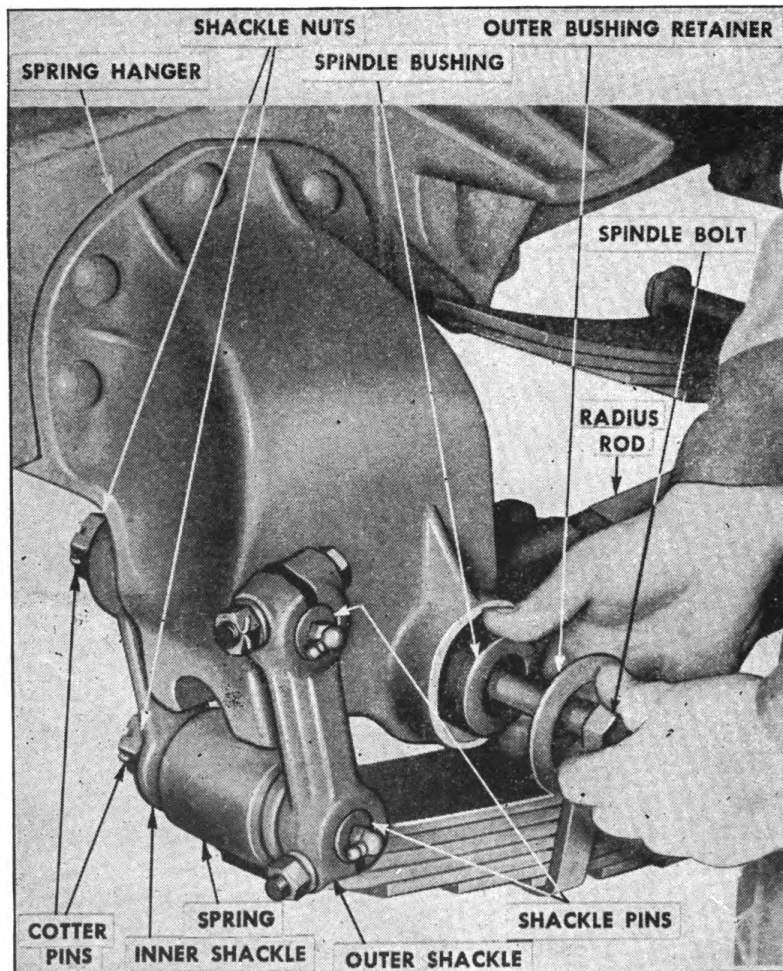

FIGURE 60. HANGER—SEMI-TRAILER
7. SPRING HANGERS—SEMI-TRAILER (Fig. 60).—*a.* NOTE: When replacing spring hangers or auxiliary spring brackets it is not necessary to disconnect dolly from semi-trailer.
c. Removal, front hanger (Fig. 60).—(1) Remove outer and inner wheels on both sides. With wheels removed the hanger is much more easily worked on, especially when rivets are being driven.
(6) NOTE: Rear hangers are interchangeable from right to left. Front hangers come in right and left hand and are not interchangeable. Before installing, check to make certain hanger is mounted properly by checking with Fig. 60 which illustrates left hand front hanger.